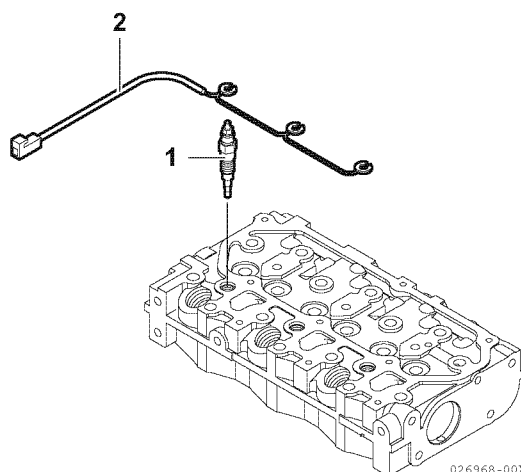

Figure 6-3
1. Disconnect the glow plug harness (Figure 6-3, (2)) from the glow plugs (Figure 6-3, (1)).